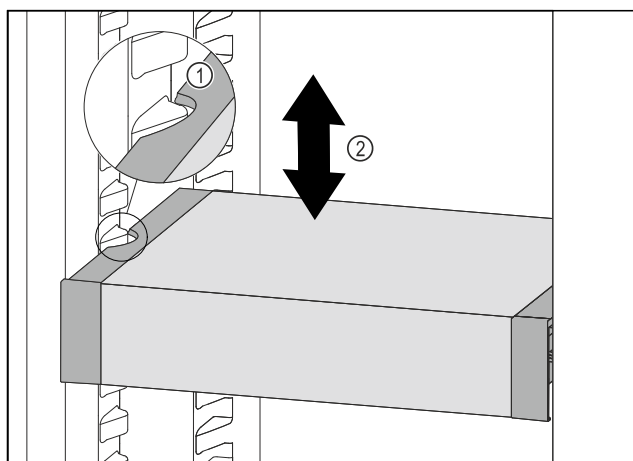

Fig. 147
- Pull VarioSafe forwards until the recesses in the side of the VarioSafe are at the level of the support rib in the refrigerator compartment. *Fig. 147 (1)*
- Move VarioSafe up or down in the refrigerator compartment until the desired height is reached. *Fig. 147 (2)*